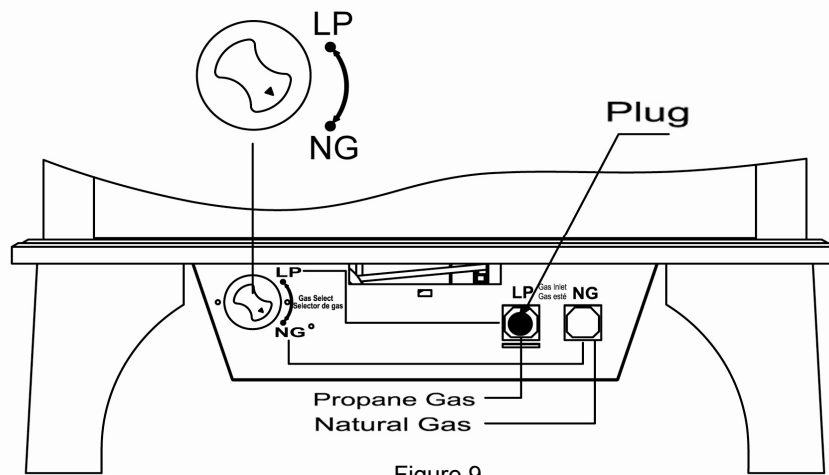

Figure 9
2. For NATURAL GAS, press in knob using a flat screwdriver with a blade the width of a quarter and turn knob clockwise  until the knob locks into the NG position (see Figure 9). Selection valve must be locked into the NG position. Do not operate heater between locked positions!